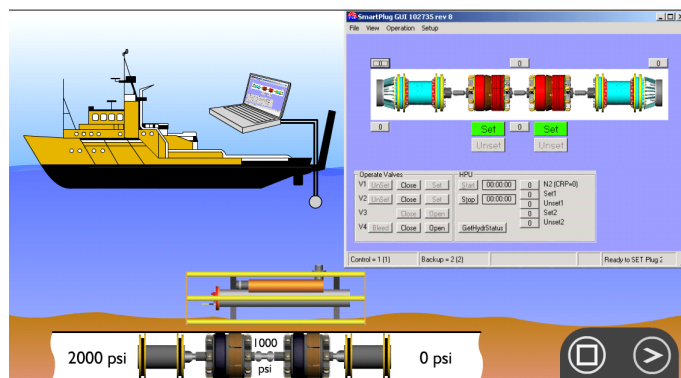

Fig. 2. TDW SmartPlug System
The TDW SmartPlug System consists of the SmartPlug, the Surface Control Center (PC), an ELF Communication Link and an Actuation System (see fig. 2).